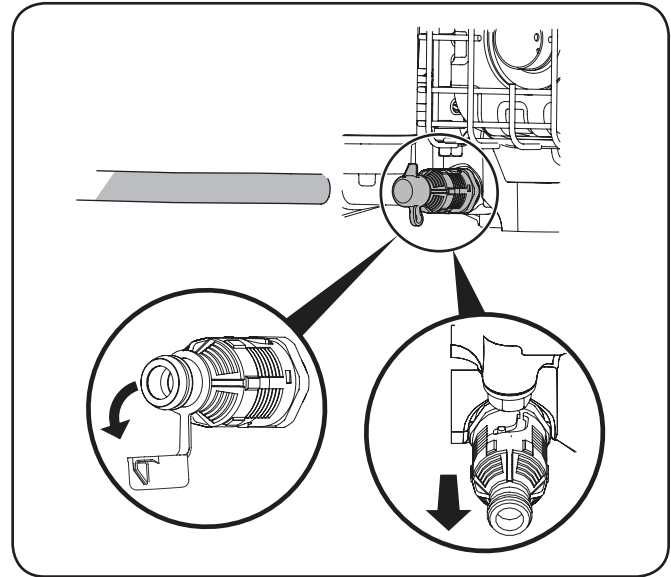

Figure 6-2
4. Pop open the protective cap on the end of the oil drain valve to expose the drain port. See Figure 6-2.
7. Turn the drain plug valve 1/4 turn counterclockwise while gently pulling the valve away from the engine to open the oil drain valve. See Figure 6-2.